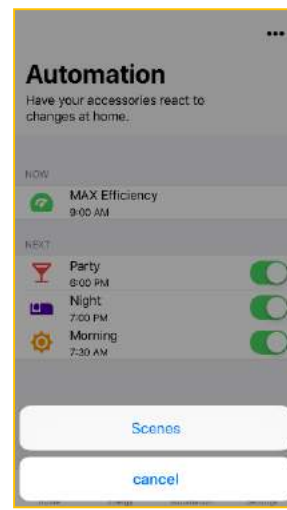

Figure 57
10.13.4. Click  and select **Scenes** (Fig. 57) to edit scenarios.